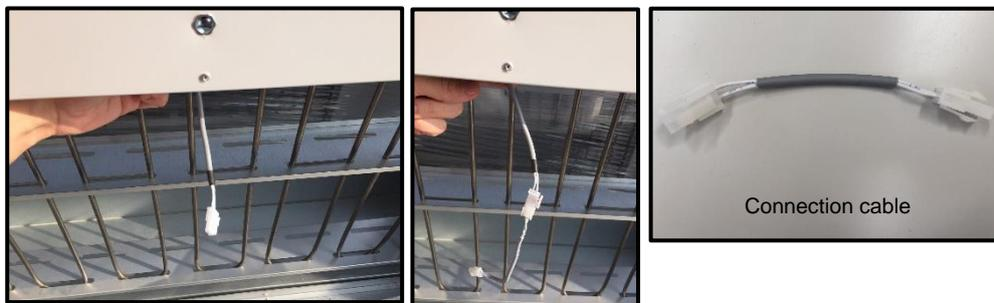

Fig. 59
3. Connect the temperature sensor that you removed from the unit to the supply line of the electrical after heater with the connection cable and fix the sheet metal with cable tie. (Fig. 59)